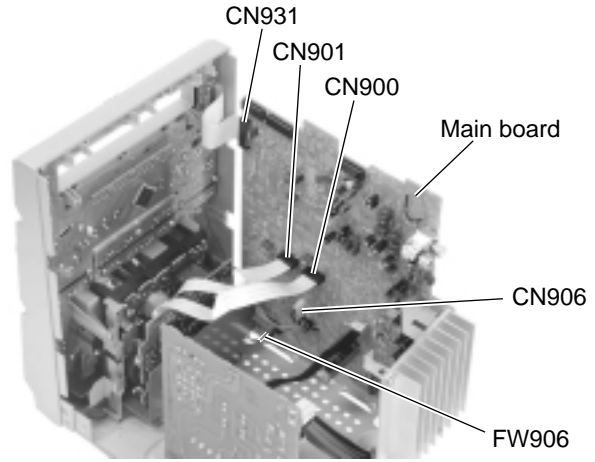

Fig.13
(See Fig.13 to 15)
■ Removing the front panel assembly (See Fig.13, 18 and 19)
1. Disconnect the card wire from connector CN900, CN901 and CN931 on the main board (Refer to Fig.13).
2. Disconnect the wire from CN906 and FW903 respectively (Refer to Fig.13).